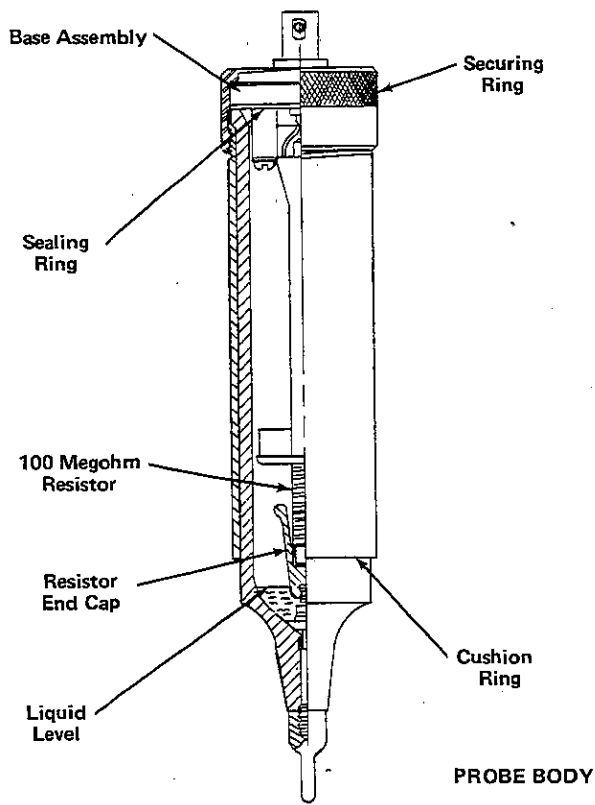

Fig. 3-1. Cutaway drawing of P6015 Probe.
Fluorocarbon 114 has a saturation pressure of about 2 atmospheres at room temperature. At room temperature, a small amount of liquid should be visible through the transparent nose of the probe when the probe tip is pointed down. Any liquid visible in the nose is an indication of proper pressure inside the probe. The saturation pressure increases with an increase in temperature, and at higher temperatures it is normal for all of the fluorocarbon 114 to be in a gaseous stage. The liquid, at room temperature, should be approximately even with or .062 inch above the bottom of the small end of the resistor end cap (see Fig. 3-1).
1. Uncouple the two halves of the probe body cover and remove the probe body (see Fig. 3-1).
4. Hold the probe tip down and release fluorocarbon 114 into the probe body until the liquid level is approximately .125 inch above the small end of the gold-plated resistor end cap (see Fig. 3-1).